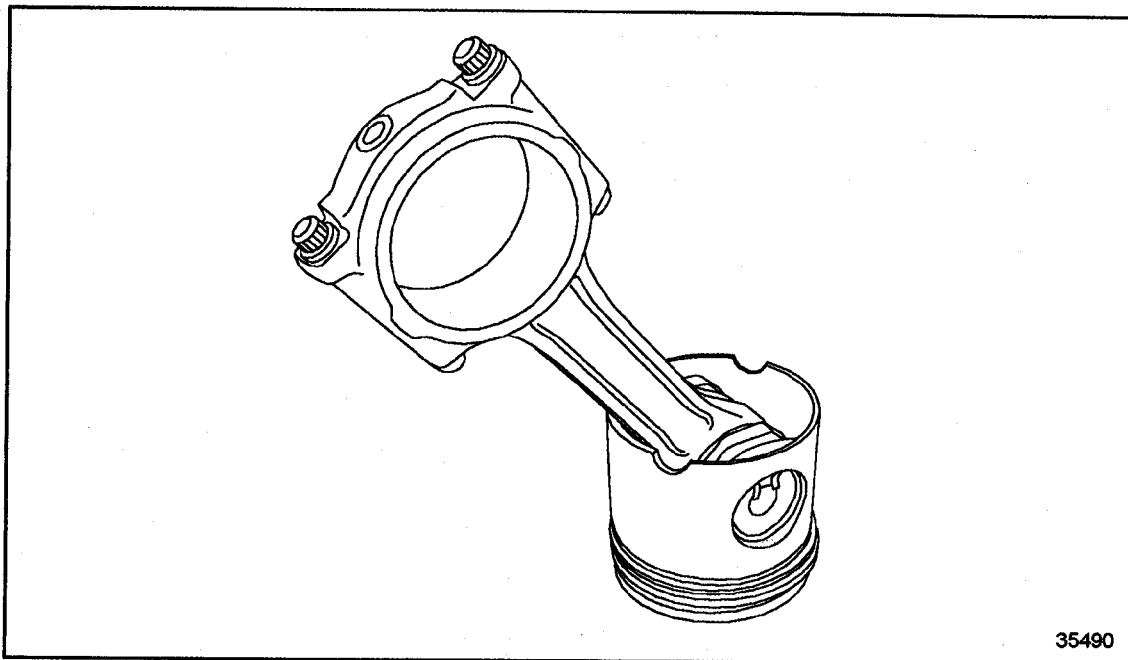

Figure 1-261 Positioning of Piston Dome
1. Position the piston dome on it's rim. See Figure 1-261.